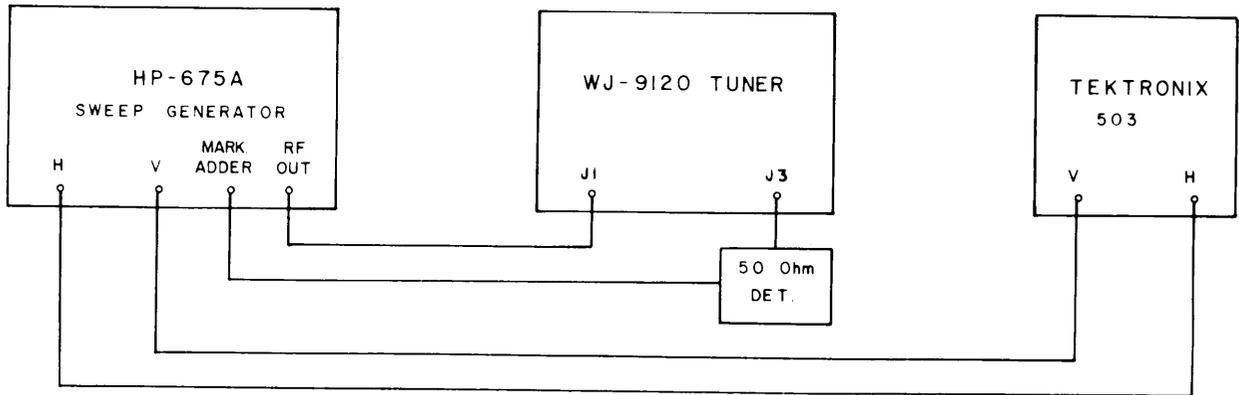

Figure 4-17. Equipment Connection, Overall Gain Adjustment (Highland)
- (4) Decrease the sweep generator RF output to -17 dBm and reconnect the 50 ohm detector to J5 and the generator RF output to J2.
- (5) Adjust A2R13 on the .5-1.5MHz RF Preselector, for an overall gain of 17 to 23 dB.
- (6) Set the sweep generator to sweep 2 MHz about a 3 MHz center frequency at a -17 dBm output level. Rotate the tuning shaft to center the response curve on the oscilloscope.
- (7) Adjust A3R13 on the 1.5-4.5 MHz RF Preselector for an overall gain of 17 to 23 dB.
- (8) Set the sweep generator to sweep 5 MHz about a center frequency of 8 MHz and rotate the tuning shaft to center the response curve on the oscilloscope.
- (9) Adjust A4R13, on the 4.5-12 MHz RF Preselector, for an overall gain of 17 to 23 dB.
- (10) Connect power for high band operation (Figure 4-3) and connect the test equipment as illustrated in Figure 4-17.
- (11) Set the sweep generator to sweep 10 MHz about a 20 MHz center frequency at a -17 dBm level. Rotate the tuning shaft to center the response on the oscilloscope.
- (12) Adjust A5R13 on the 12-30 MHz RF Preselector for an overall gain of 17 to 23 dB.